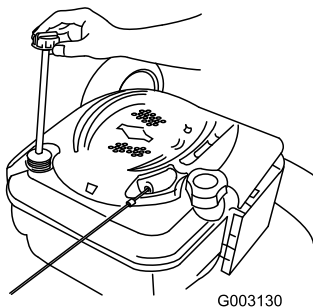

Figure 42
2. Remove the dipstick (Figure 42).